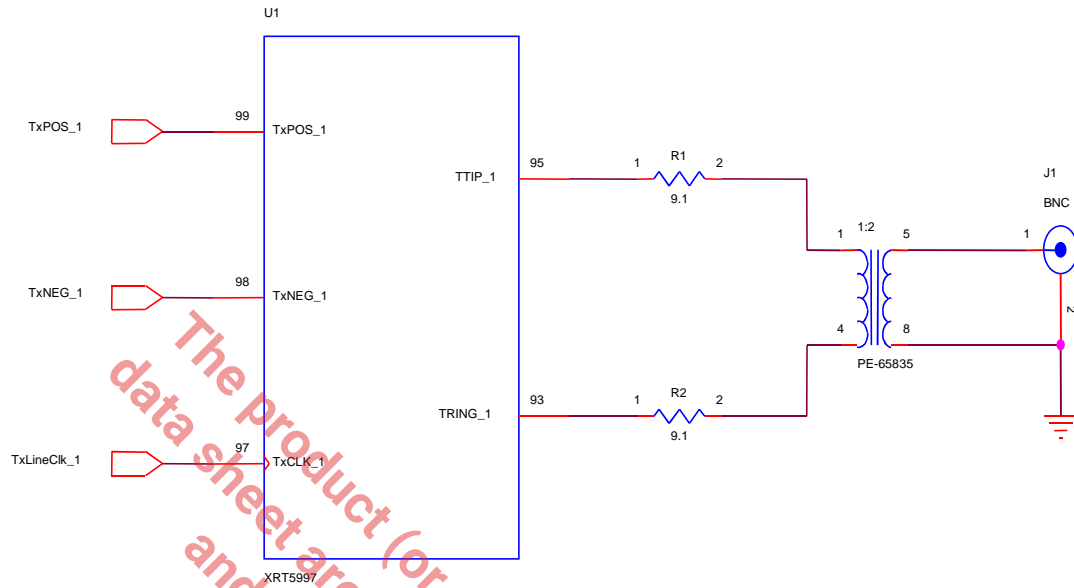

Figure 5. Illustration of how to interface the Transmit Sections of the XRT5997 device to the Line (for “75Ω ” Applications)
However, in both applications (e.g., 75Ω or 120Ω), the user is advised to interface the Transmitter to the Line, in the manner as depicted in Figures 5 and 6, respectively.
1. Figures 5 and 6, indicate that for both “75Ω” and “120Ω” applications, the user should connect a 9.1Ω resistor, in series, between the TTIP/TRing outputs and the transformers.
2. Figure 5 and 6, indicate that the user should use a “1:2 STEP-UP” Transformer.